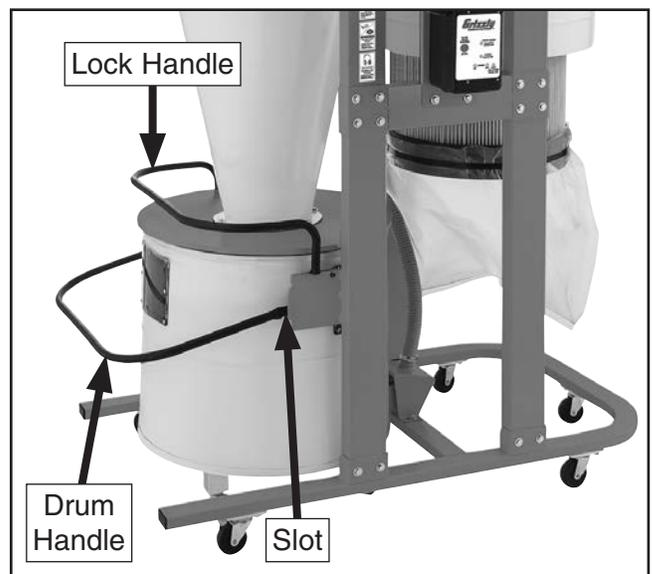

Figure 40. Collection drum secured to machine.
43. To connect collection drum to machine, lift drum handle and push drum in to align handle tabs with slots on legs. Push drum handle down to engage lock handle (see **Figure 40**).